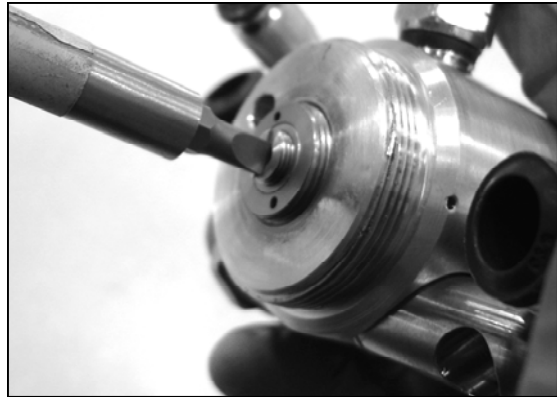
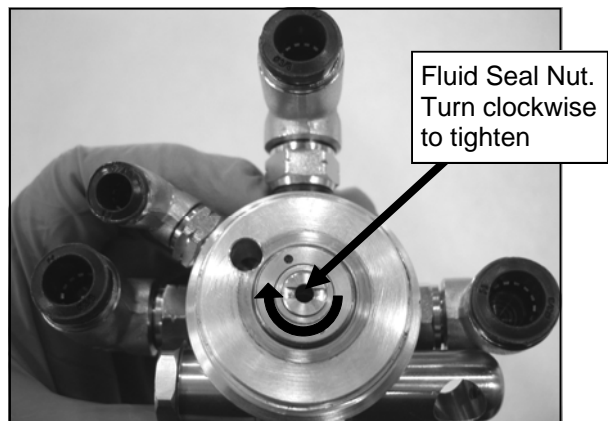

Figure 11
Figure 12
3. Insert a thin, flat-blade screwdriver into the rear of the main spray gun body (See Figure 11) and turn the fluid seal nut 1/4 turn clockwise to tighten or counter-clockwise to loosen (See Figure 12 & 13).